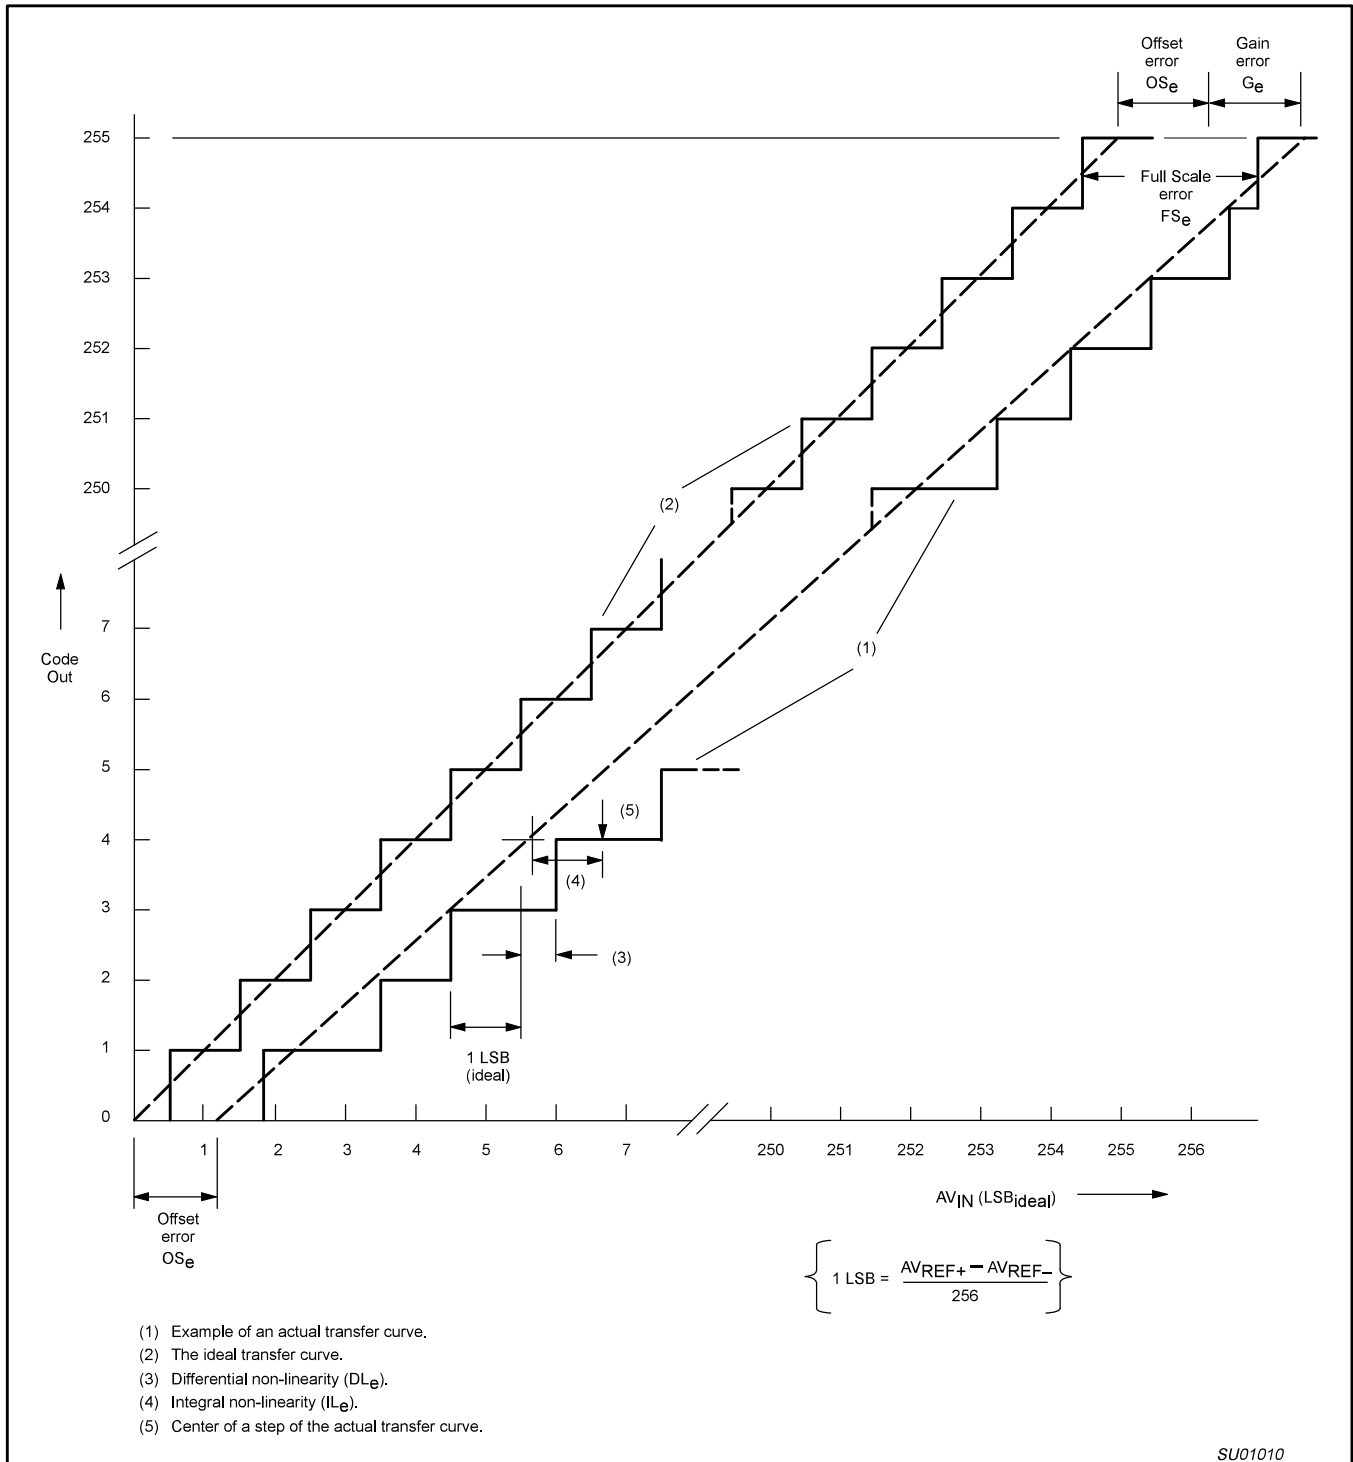

Figure 25. ADC Conversion Characteristic
- The differential non-linearity (DLe) is the difference between the actual step width and the ideal step width. See Figure 25.
- The integral non-linearity (ILe) is the peak difference between the center of the steps of the actual and the ideal transfer curve after appropriate adjustment of gain and offset errors. See Figure 25.
- The offset error (OSe) is the absolute difference between the straight line which fits the actual transfer curve (after removing gain error), and the straight line which fits the ideal transfer curve. See Figure 25.
- The gain error (Ge) is the relative difference in percent between the straight line fitting the actual transfer curve (after removing offset error), and the straight line which fits the ideal transfer curve. Gain error is constant at every point on the transfer curve. See Figure 25.
2. The differential non-linearity (DLe) is the difference between the actual step width and the ideal step width. See Figure 25.
4. The integral non-linearity (ILe) is the peak difference between the center of the steps of the actual and the ideal transfer curve after appropriate adjustment of gain and offset errors. See Figure 25.
5. The offset error (OSe) is the absolute difference between the straight line which fits the actual transfer curve (after removing gain error), and the straight line which fits the ideal transfer curve. See Figure 25.
6. The gain error (Ge) is the relative difference in percent between the straight line fitting the actual transfer curve (after removing offset error), and the straight line which fits the ideal transfer curve. Gain error is constant at every point on the transfer curve. See Figure 25.